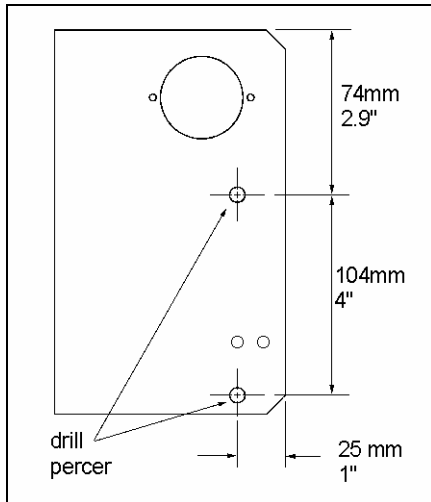
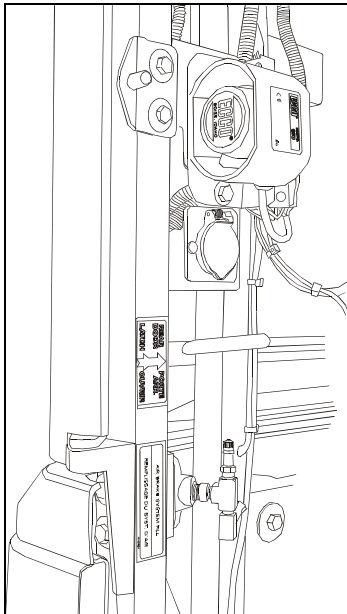

FIGURE 1 : XL2 SERIES VEHICLES, POSITIONING OF HOLES ON SUPPORT BRACKET
FIGURE 3 : BACK-UP ALARM ON XL2 SERIES VEHICLE
2. **XL2 series vehicles**, drill two 5/16" diameter holes in the back-up alarm support bracket as shown in figure 1. Install Ecco back-up alarm as per figure 3 and plug back-up alarm electrical connector to harness.